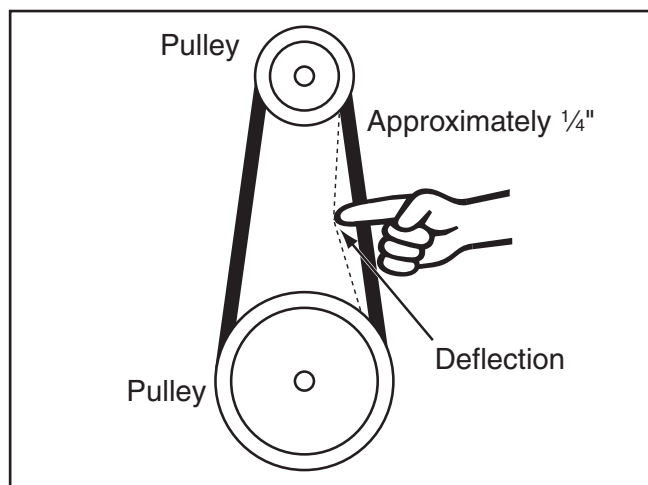

Figure 50. Checking belt tension.
3. Check belt condition and deflection. The belt is properly tensioned if there is approximately $\frac{1}{4}$ " deflection. Deflection is checked by pushing belt with moderate pressure, as shown in **Figure 50**, and noting how much it moves.